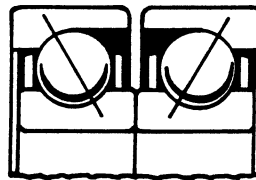

Figure 2. Correct Bearing Mounting
Mount the heated outboard bearings on the impeller shaft, making certain that they are installed with the loading opening sides facing each other and the ball contact angles converging toward the center (see figure 2).
Install the oil seal (106) in the pedestal body with the lip positioned as shown in Figure 2. Install the slinger ring on the shaft. Secure the pedestal assembly to the intermediate, with "TOP" in proper position.
Press the oil seal (100) into the seal plate with the lip positioned as shown in Figure 2. Install the seal plate in the intermediate.